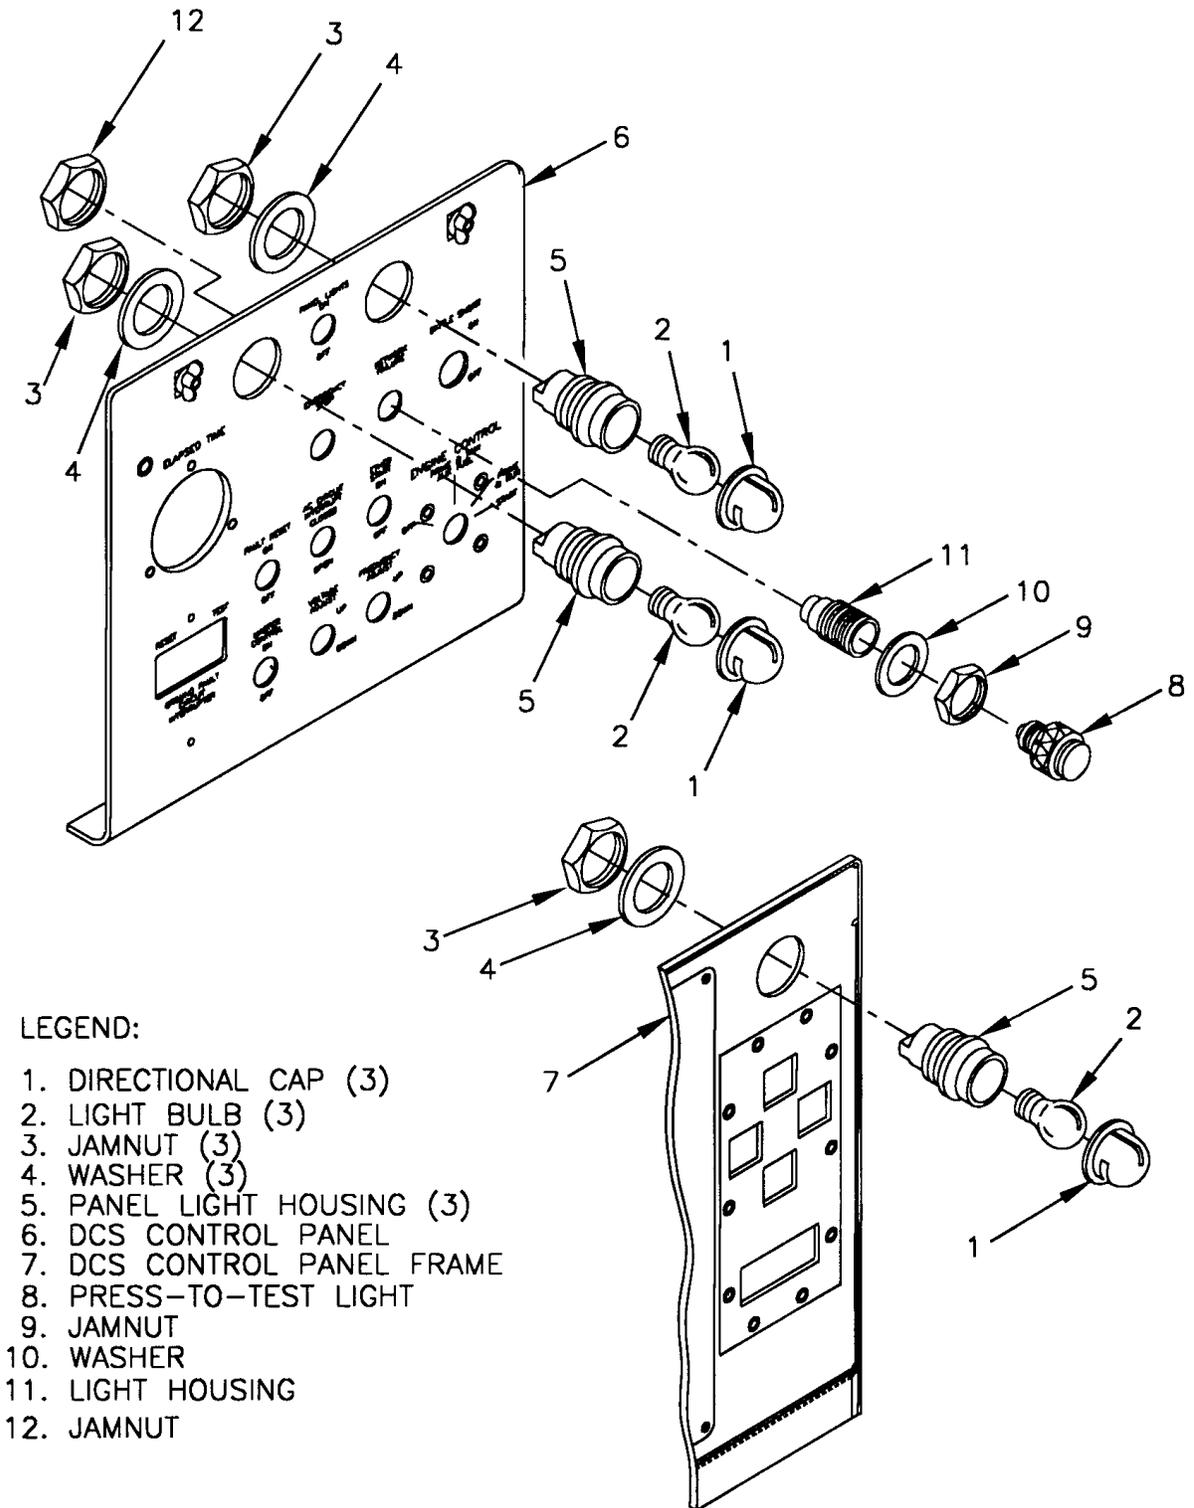

FIGURE 4-11. DCS CONTROL BOX PANEL LIGHTS DS1 THROUGH DS3 AND NETWORK FAILURE LIGHT DS5
- (1) Shut down generator set, paragraph 2.11.2.
- (2) Remove directional cap (1, Figure 4-11) from panel light housing (5).
- (3) Remove light bulb (2) from panel light housing (5).
- (4) Set multimeter to ohms, and check light bulb for continuity across base and threads. Multimeter should indicate continuity.
- (5) If multimeter does not indicate continuity, replace light bulb (2).
- (6) Inspect directional caps (1) for cracks, corrosions, stripped threads, and other damage.
- (7) Release DCS control panel by turning two fasteners, and lower panel slowly.
- (8) Inspect panel light housings (5) on DCS control panel (6) for cracks, corrosion, stripped threads, and other damage.
- (9) Install light bulb (2) in panel light housing (5).
- (10) Install directional cap (1) on panel light housing (5).
- (11) Raise and secure DCS control panel.
- (12) Remove DCS control box top panel, paragraph 4.7.2.
- (1) Remove directional cap (1, Figure 4-11) from panel light housing (5).
- (2) Remove light bulb (2) from panel light housing (5).
- (3) Install light bulb (2) in panel light housing (5).
- (4) Install directional cap (1) in panel light housing (5).
- (3) If defective panel light is on DCS control panel (6, Figure 4-11), release DCS control panel by turning two fasteners, and lower panel slowly.
- (4) If defective panel light is on DCS control panel frame (7), remove DCS control box top panel, paragraph 4.7.2.
- (5) Tag and disconnect panel light housing (5) electrical leads.
- (6) Remove jamnut (3), washer (4), and panel light housing (5) from DCS control panel (6) or DCS control panel frame (7).
- (7) Install panel light housing (5), washer (4), and jamnut (3) on DCS control panel frame (7) or DCS control panel (6).
- (8) Connect panel light housing (5) electrical leads. Remove tags.
- (9) If removed, install DCS control box top panel, paragraph 4.7.2.
- (10) If lowered, raise and secure DCS control panel.
- (11) Connect negative battery cable to battery, and close BATTERY ACCESS doors.
- (2) Release DCS control panel by turning two fasteners, and lower panel slowly.
- (3) Inspect light housing (11, Figure 4-11) for cracks, corrosion, evidence of shorting, and other damage.
- (4) Raise and secure DCS control panel.
- (1) Unscrew to remove press-to-test light (8, Figure 4-11) from light housing (11).
- (2) Screw press-to-test light (8) into light housing (11) to install.